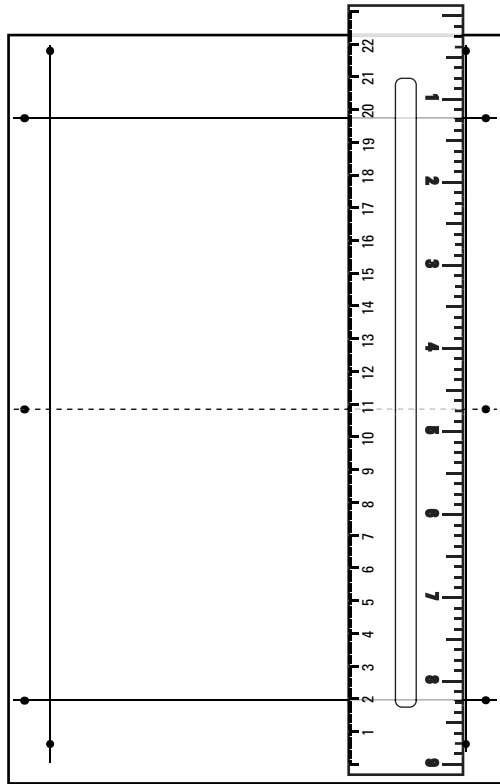

Figure 4-5:
4. Repeat this process with two vertical lines (see Figure 4-5).